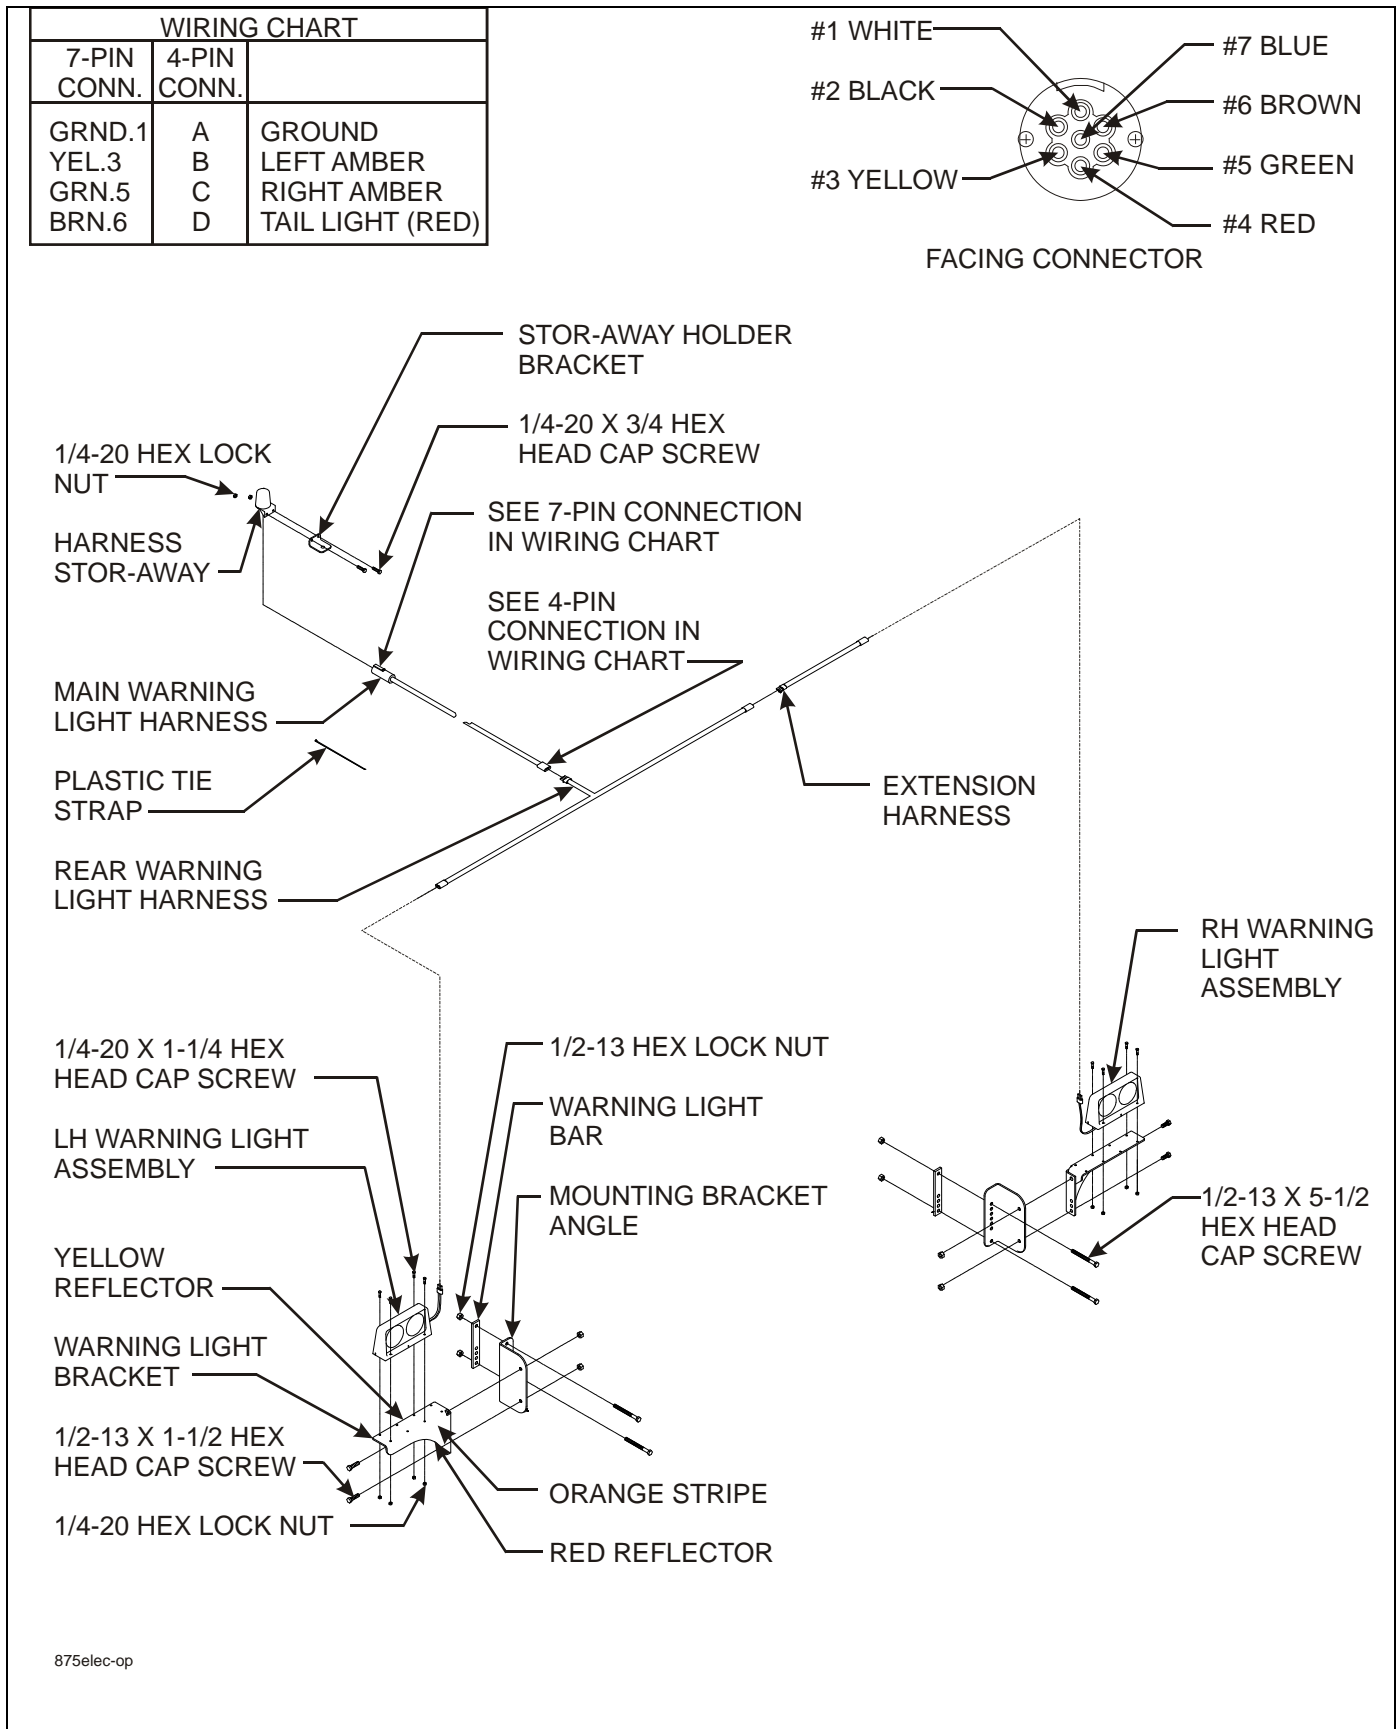

Figure 3-17: Electrical Installation
1. Assemble lights to the warning light bracket using 1/4-20 X 1-1/4 hex head cap screws and hex lock nuts. Insure the wires are in the groove in the base of the light toward the mounting surface on the bracket. Assemble one light for left side and one for right side. The red light should be to the rear with the amber light being the outer most light **(See Figure 3-17.)**
5. Assemble warning light bar and warning light bracket assembly to outer rear of frame as shown in **Figure 3-17** using 1/2-13 x 5-1/2 hex head cap screws and hex lock nuts.